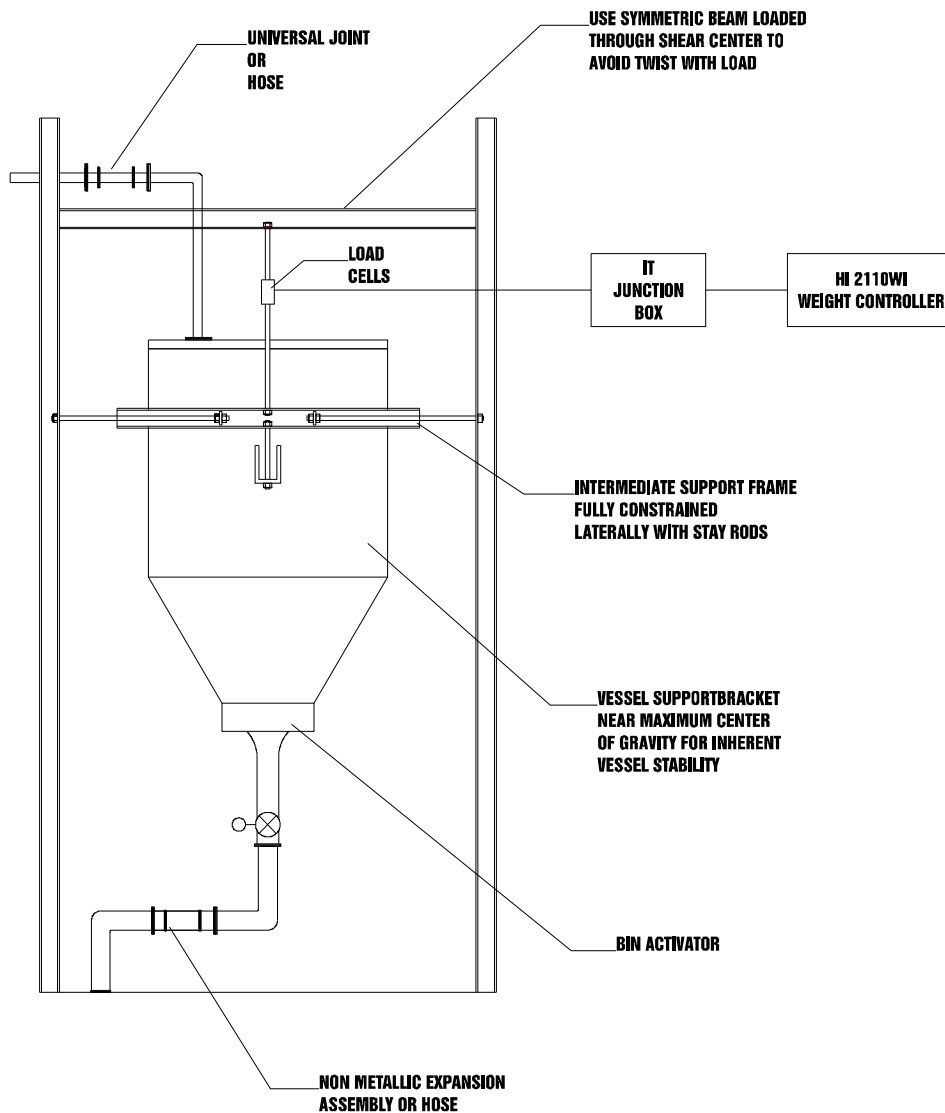

FIG. 8-1 TYPICAL LOAD CELL SYSTEM
1. The typical system consists of one or more load cells/points, a summing junction box, and a weight controller (the HI 2110WC). (See Figure 8-1).